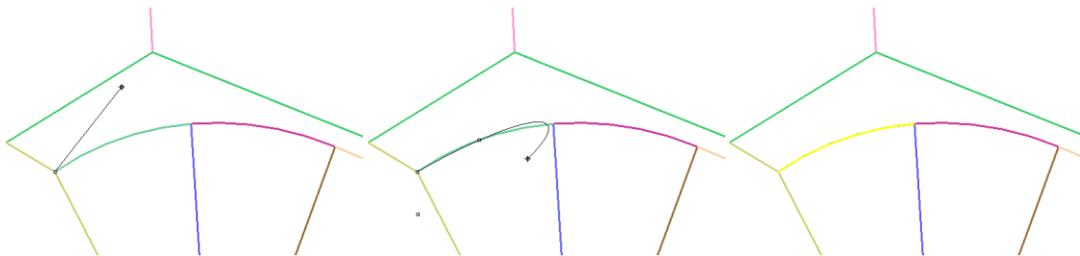

Figure 62: Building the upper curve
2. Select **Curve|Arc|Start, Point, End** and **Zoom in** around the curved area and click on the left end of the left upper eighth-circle (Figure 62, left) to set the **Start of arc**. Note that a bubble saying **End, Int, Knot** appears momentarily near the corner vertex, before you click on it.
3. **Following** along the same curve, click on a **second** vertex somewhere near the middle of the curve (Figure 62, center). This sets the 2d point of the arc. For the **End** point of the arc, click on the **vertex** at the upper T junction to finish the arc highlighted in Figure 62, right.